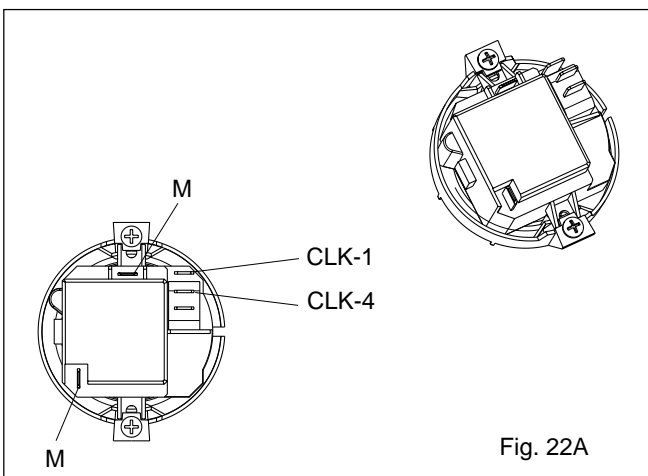

Fig. 22A
6.15 INTEGRAL TIME SWITCH (fig. 22A)